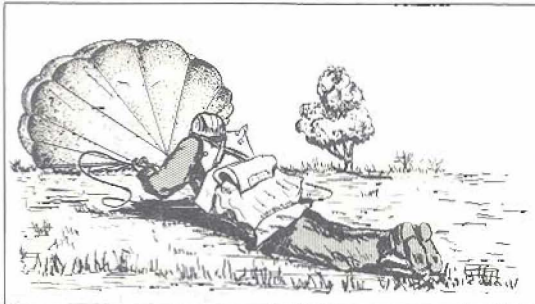

Figure 4: Pulling in the Parachute
(6) **HIGH WIND LANDING** - The procedure for landing during a high wind is exactly the same as that described above. Once you are down on the ground, however, roll over on your stomach and, hand-over-hand, haul in the suspension lines **NEAREST THE GROUND**. If you are on your back the same thing applies - **ALWAYS** pull in the lines nearest to the ground. Keep drawing in the lines until you can spill the air out of the canopy and collapse the parachute. (See Figure 4 overleaf.)